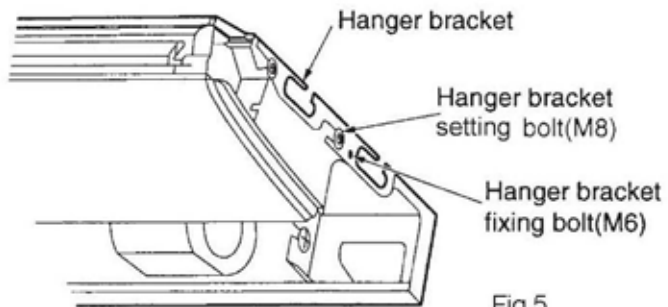

Fig.5
- ☆ Loosen two hanger bracket setting bolts (M8) on each side for less than 10mm. Remove two hanger bracket fixing bolts (M6) on the rear side. Detach the hanger bracket by pulling it backward (Refer to Fig.5).
6. Screw tightly both hanger bracket-setting bolts (M8). (Refer to Fig.5)
(Refer to Fig.5)